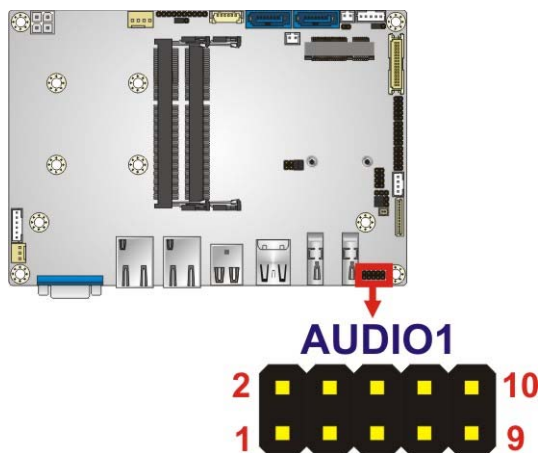

Figure 3-2: Audio Connector Location
- CN Location:** See **Figure 3-2**